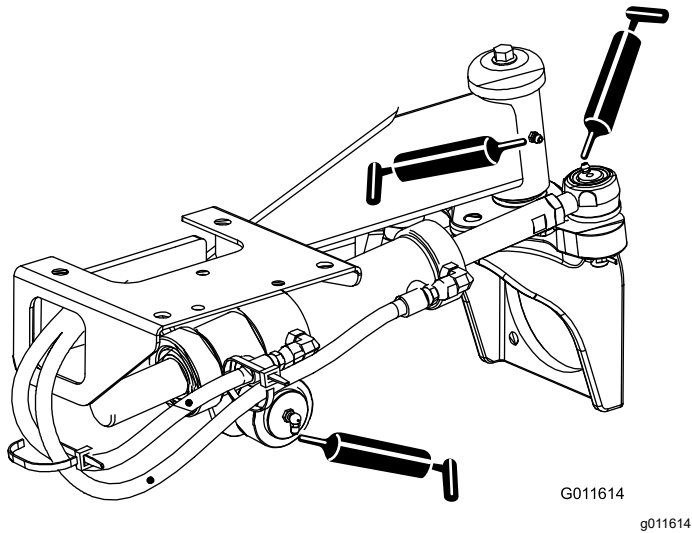

Figure 76
- Steering-cylinder ball joints (2) and rear axle (1)—Figure 76